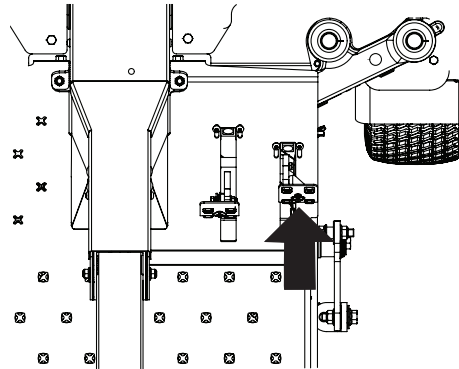

Figure 3-8
1. Slowly push the reverse drive pedal forward. The tractor will start to move in the reverse direction. See Figure 3-8.